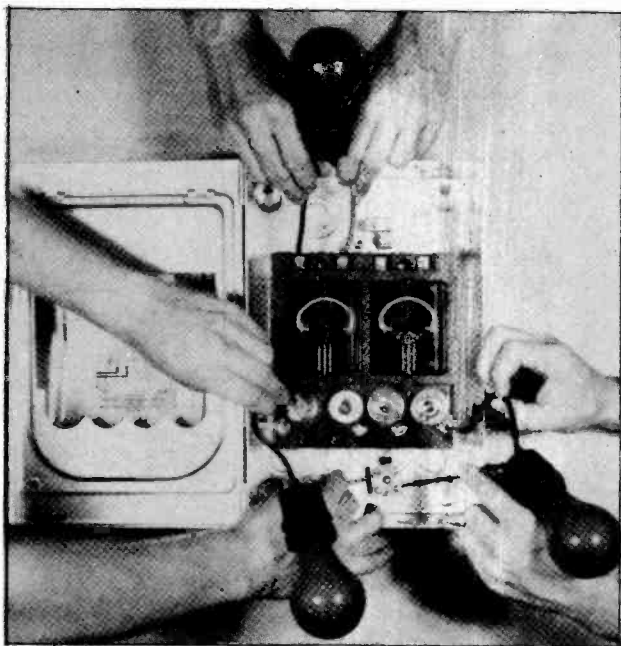

Figure 6.—Use of the trouble lamp.
**Fuse Service.**—Trouble must be located before it can be removed from the electrical circuit. Locating this trouble is called circuit "trouble shooting," and is usually accomplished by the aid of a "trouble lamp." (See fig. 6.) Every electrified farm should have one. The trouble lamp consists of a weather-proof non-metallic lamp socket into which a 25-watt, 220-volt lamp is screwed and to which short, well insulated wires are attached. The insulation at the end of each wire should be removed for a distance of an inch.